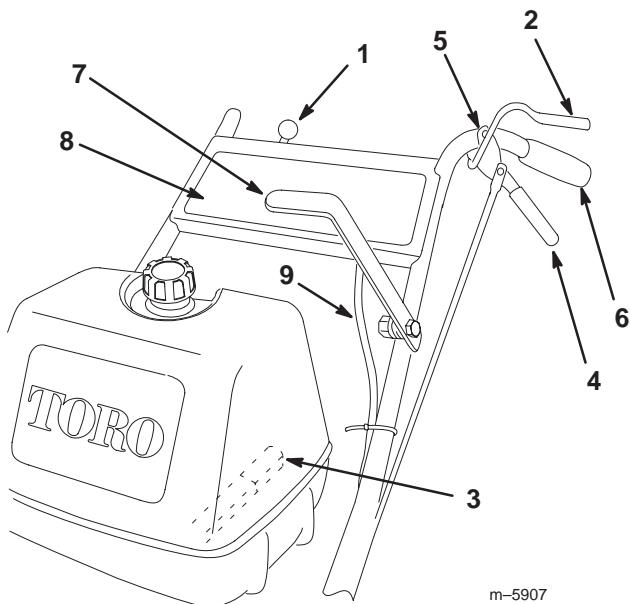

Figure 12
5. Route the wire harness along the inside of the left handle and under the control panel (Fig. 12).
7. Use the wire ties to secure the wire harness and the throttle cable to the left handle and away from the blade control (PTO) lever (Fig. 12).
Become familiar with all the controls (Fig. 12) before you start the engine and operate the machine.
1. Move the throttle lever to the **Slow** position (Fig. 12).
2. To stop the engine, pull the throttle all the way back to the **Stop** position (Fig. 12).
1. Squeeze the operator presence control (OPC) levers against the handles (Fig. 12).
2. Push the blade control (PTO) lever firmly forward until it latches over the center (Fig. 12).
Pull the blade control (PTO) lever **fully** rearward (Fig. 12).